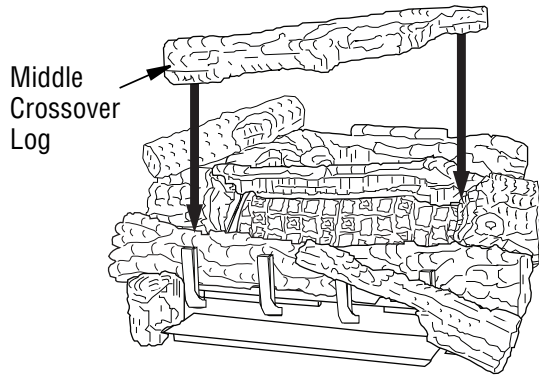

Figure 47 - Installing Middle Crossover Log
11. Rest the middle crossover log (18" D-070, 24" & 30" D-044) onto the right middle log and the left front log (see **Figure 47**). Make sure to match the projection on the bottom of the crossover log with the recess area in the right middle log and the left front log.